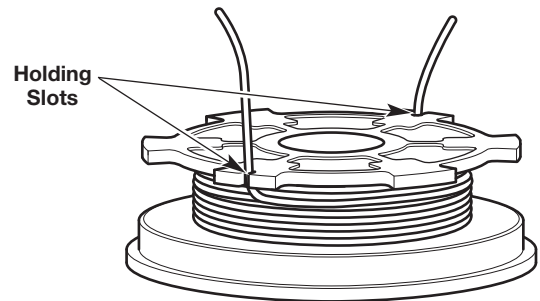

Fig. 19
4. Insert the two 6-inch ends into the two holding slots (Fig. 19).
6. Insert the two 6-inch ends into the two holding slots (Fig. 19).